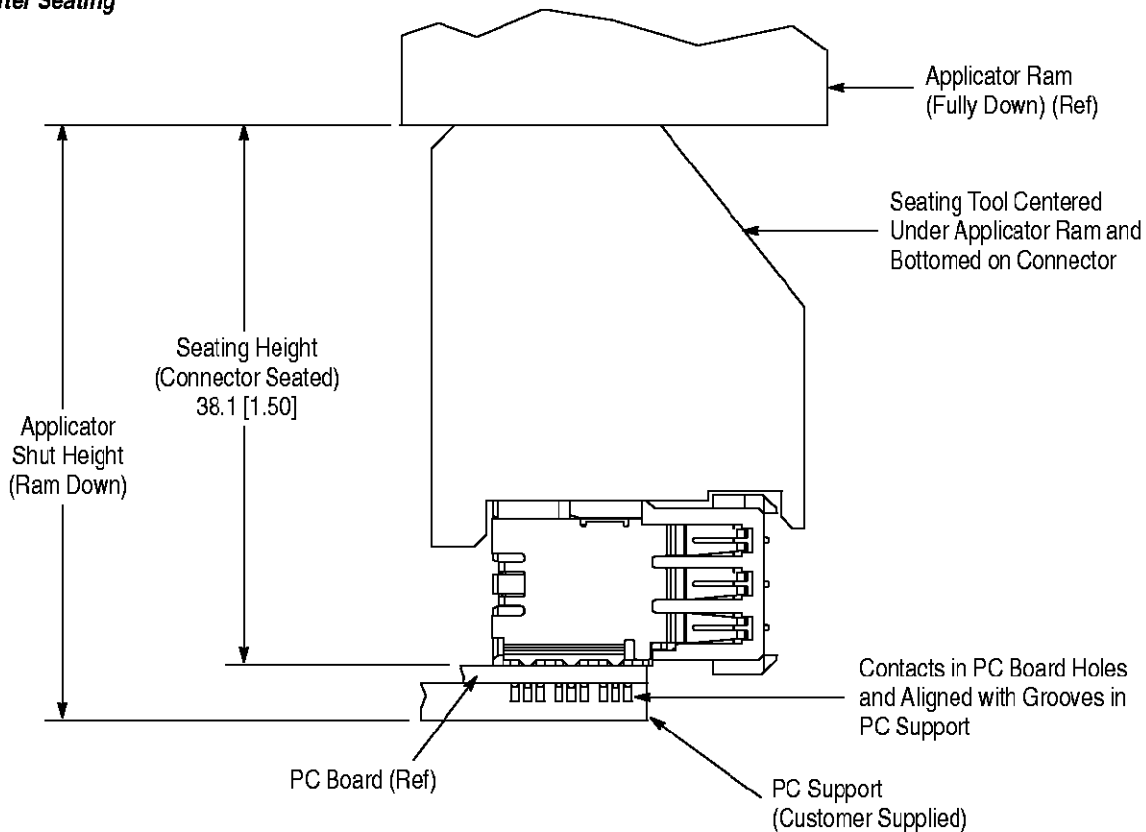

Figure 2
1. Set seating height to the dimension shown in Figure 2. (Applicator *shut height* will equal the seating height PLUS the combined thicknesses of the pc board, and pc support.)
3. Position the connector onto the pc board so that the contacts are properly aligned to the pc board and pc support. See Figure 2.
5. Position the seating tool onto the connector with the angle positioned as shown in Figure 2.